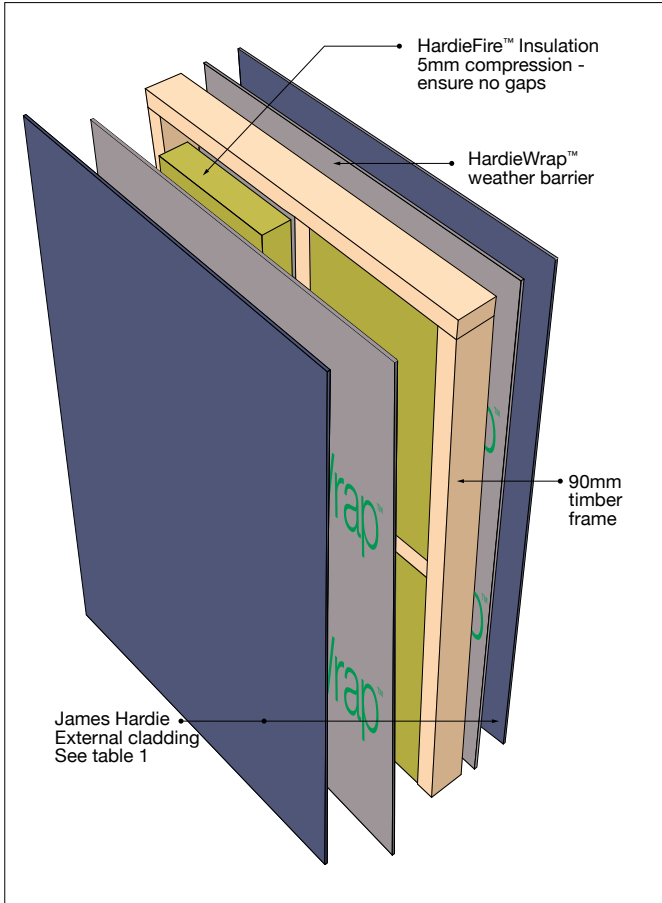

FIGURE 1 HARDIESMART™ BLADE WALL SYSTEM
3. HARDIEFIRE™ INSULATION: It must be used as the frame cavity infill and must be compressed 5mm at a minimum in both vertical and horizontal directions (i.e. Batt size must be at a minimum 5mm wider and longer than frame stud bay). Ensure there are no gaps in the installation. Please refer to figure 1 for more information on installation. If cutting is required, it is recommended to cut outdoors. If indoors, please ensure that workspace is properly ventilated or M class or higher vacuum/dust extractors are used.